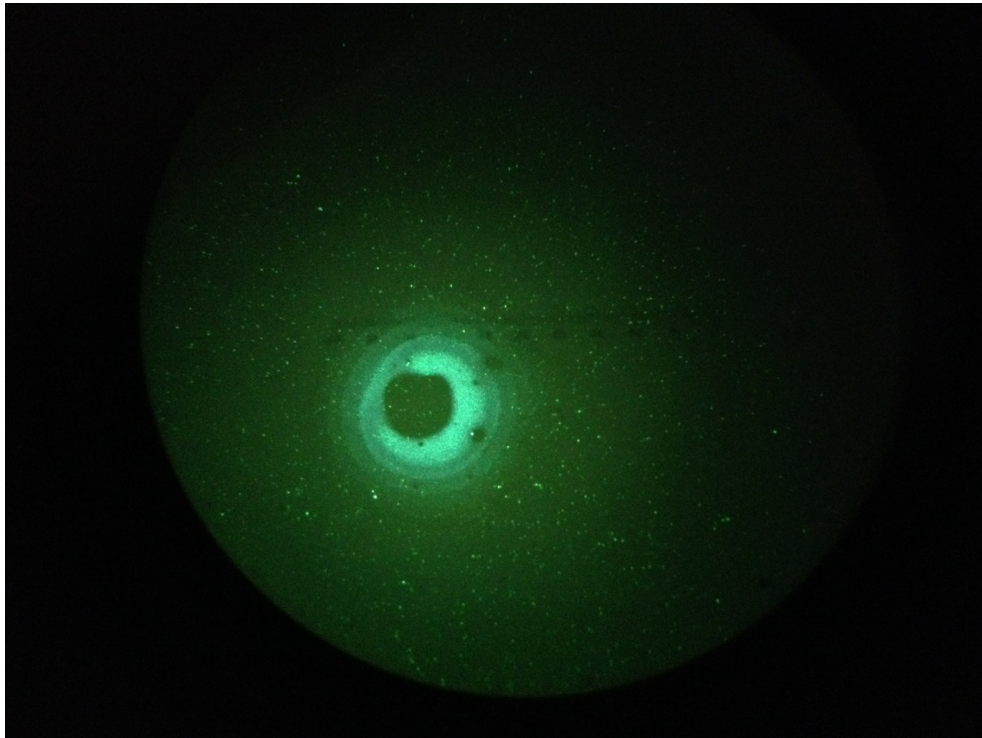

Figure 1: ITM11 HR coating Defect 10x darkfield closeup
1. Numerous coating defects on S1, counted at around 30 over all surface. Greenish, hazy donut shaped defects, ~1mm in diameter. The one closest to the center is ~25mm away from center. These are visible with the flashlight array. Fig. 1 below shows a closeup of the defect taken with an iPhone through the darkfield eyepiece at 10x.